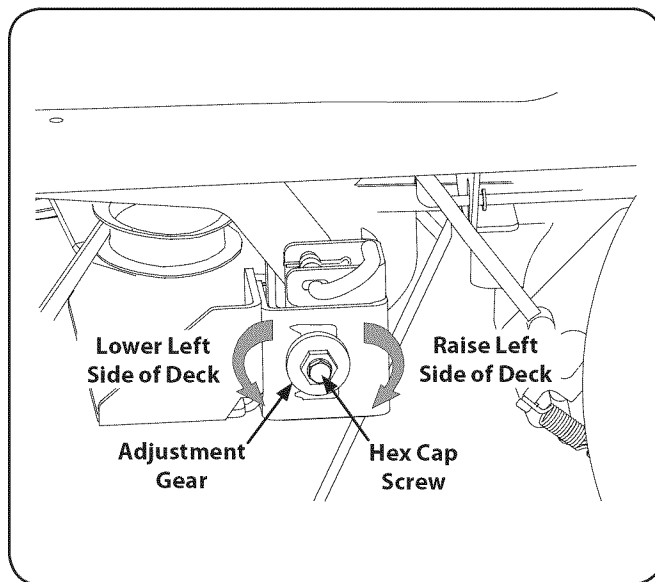

Figure 6-6
6. Loosen, but do not remove, the hex cap screw on the left deck hanger bracket. See Fig. 6-6.
7. Level the deck by using a wrench to turn the adjustment gear (found immediately behind the hex cap screw just loosened) clockwise to raise the left side of the deck, or counterclockwise to lower the left side of the deck. See Fig. 6-6.